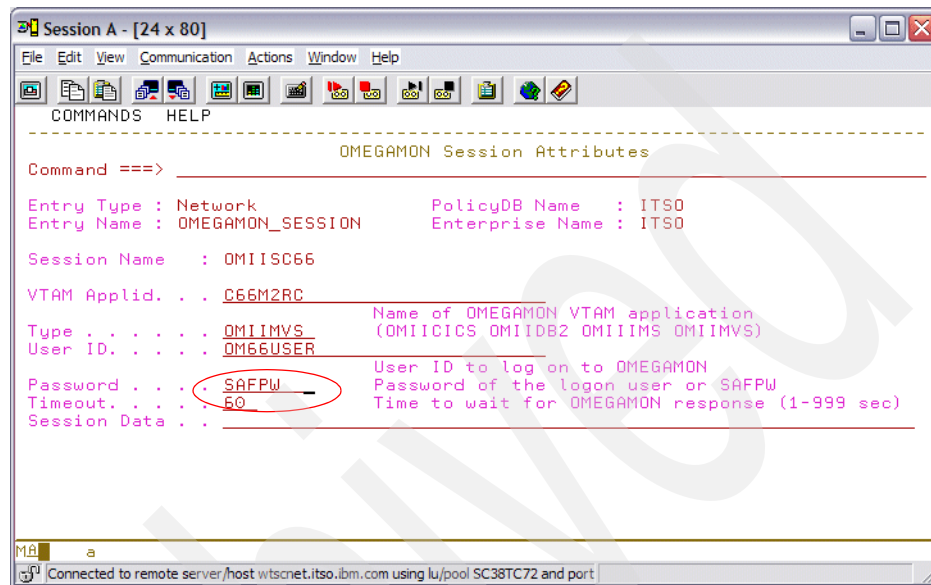

Figure 3-28 OMEGAMON session attributes screen
- Alternatively, you can define the password field in the OMEGAMON SESSIONS policy item as SAFPW. SAFPW forces System Automation for z/OS to use encrypted passwords in the NetView password data set, EZLPSWD. The update definition is shown in Figure 3-28.
In Figure 3-28, the Password field is set to SAFPW, meaning that for this session, OMIISC66, System Automation for z/OS uses the NetView password data set, EZLPSWD, and the GETPW command to retrieve the passwords.